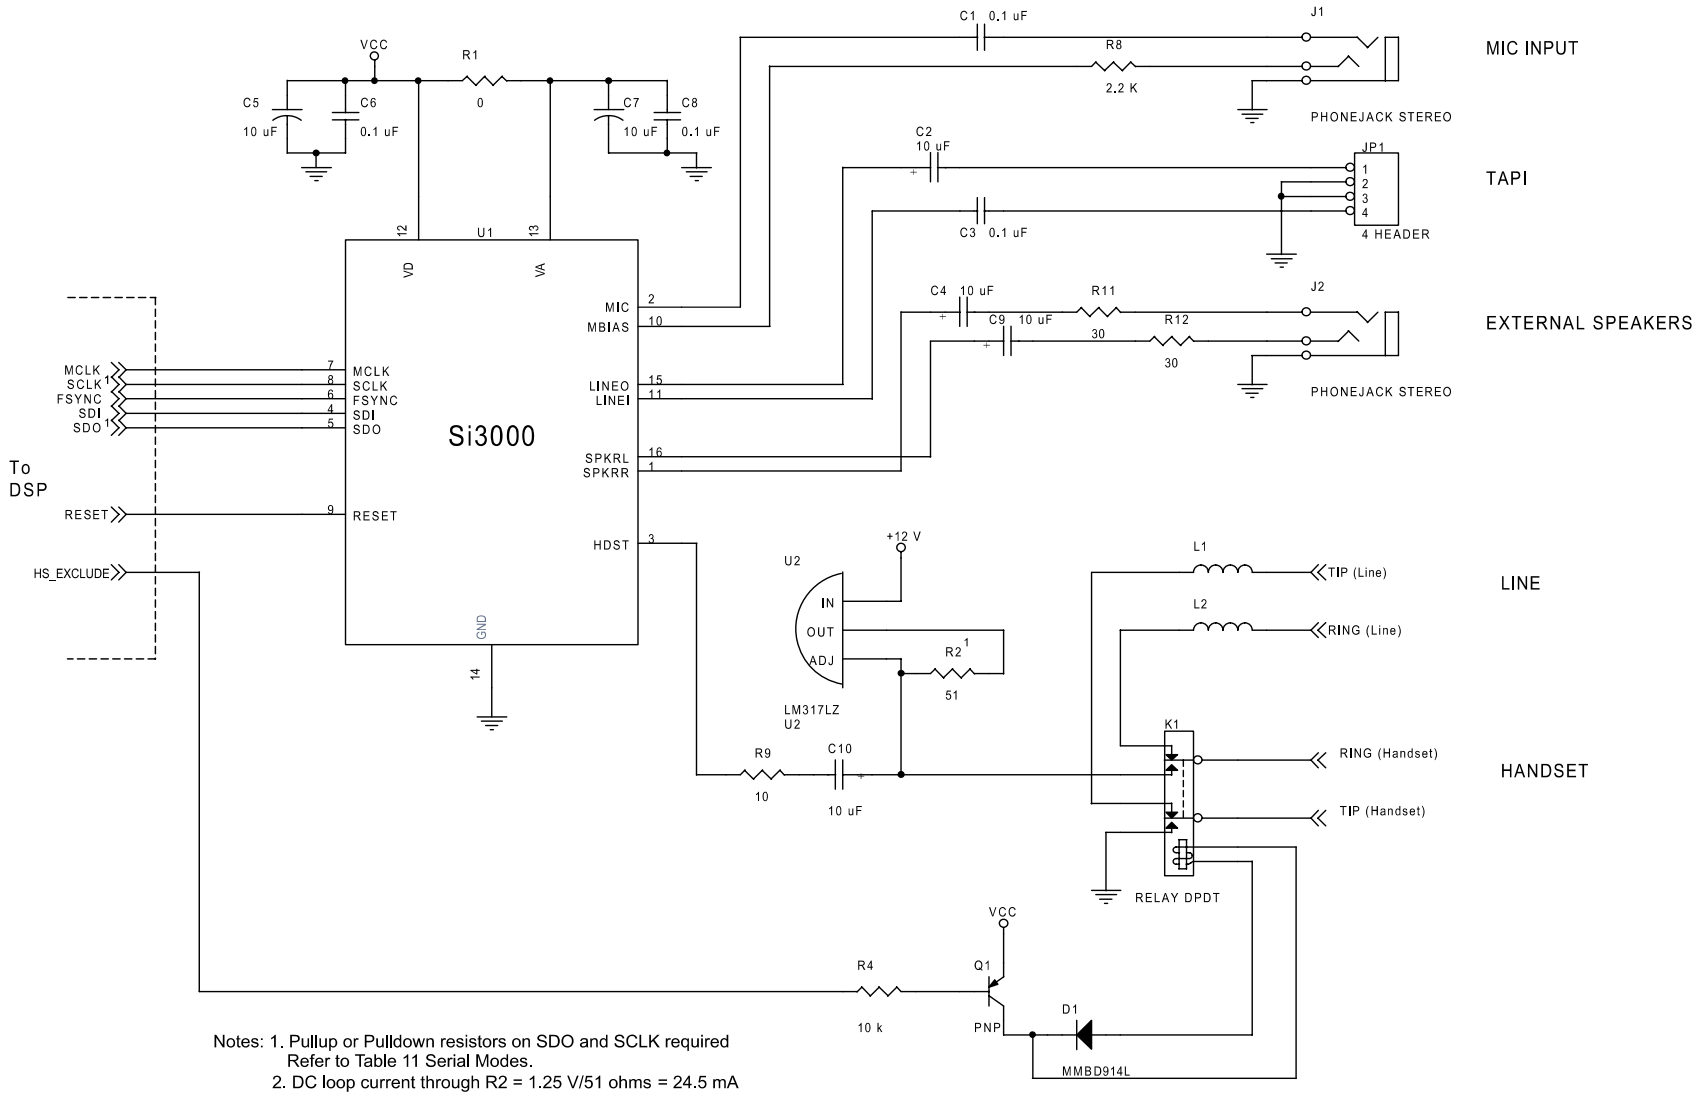

Figure 13. Si3000 Typical Application Circuit
5. These characteristics are determined by external components. See Figure 13.
The Si3000 can be connected directly to the Si3035, Si3034, Si3044 in modem applications requiring a voice channel, or the device can be used as a stand-alone codec in other voice band applications. The Si3000 offers high integration, and it needs only a few low cost, discrete components as shown in Figure 13.
The typical connection diagram (Figure 13) shows the recommended external analog circuitry for the Si3000. The device supports three mono analog inputs—line level, microphone level, and a handset input. Each of these inputs is provided to a mixer circuit prior to A/D conversion. Each analog input may also be muted by writing the appropriate bits in the control registers. Unused analog inputs should be tied to GND through a 0.1 μ F capacitor. This prevents any DC current flow.
LINEO is a line level analog output signal centered around a common mode voltage. The minimum recommended load impedance is 600 Ω . This output is a fully filtered output with a 1 Vrms full scale range. The only external component required is the 10 μ F DC blocking capacitor shown in Figure 13 on page 12. This output may be muted through the LOM bit in register 6 or attenuated by setting the analog attenuation bits in register 9.
The SPKRL and SPKRR analog outputs are capable of driving a small loudspeaker whose impedance is typically 32 Ω (see Figure 13 on page 12). The speaker outputs may be muted through the SLM and SRM bits in the DAC Gain Control register 7 or attenuated by setting the analog attenuation bits in register 9.
The Si3000 has two serial interface modes that support most standard modem DSPs. These modes are selected by the addition of a 50 k Ω pull-down/up resistor on the SDO and SCLK pins as shown in Figure 13 on page 12. To determine the mode, the Si3000 reads SDO and SCLK on the first rising edge of MCLK after RESET goes low. The key difference between these two serial modes is the operation of the FSYNC signal. Table 11 summarizes the serial mode definitions.